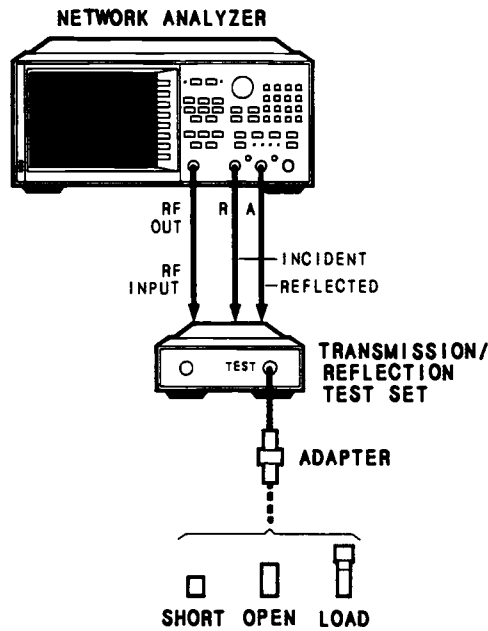

Figure 4-2. HP 85044A Calibration Set-up
1. Connect the HP 85044A to the analyzer as shown in Figure 4-2, turn on the analyzer and press **[PRESET]**. To test the HP 85046B, press **[STOP] [2] [G/n]** on the analyzer to limit its upper frequency to 2 GHz.